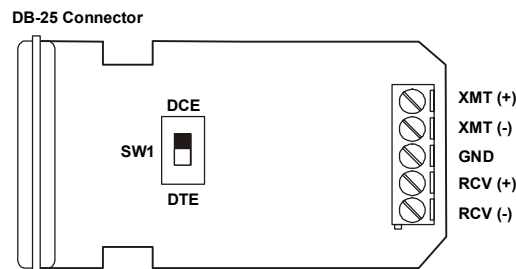

Figure 2. SW1 Switch Location
The modems are available with a male or female integral 25-pin connector for the DTE interface and a five-screw (4-wire and ground) terminal block connector for the line. Optionally, the line connection can be RJ-45. Table 2 provides the pinout of the RJ-45 line connector. Figure 2 illustrates the terminal block connector.
2. Configure the modem to operate as DCE or DTE by setting the internal SW1 switch to appropriate position. Refer to Figure 2 to locate the switch. Refer to Figure 3 for control signal direction in DCE and DTE modes.
**Note** When operating in a noisy environment, use shielded cables, and connect the cable shield to the GND terminal (see Figure 2).